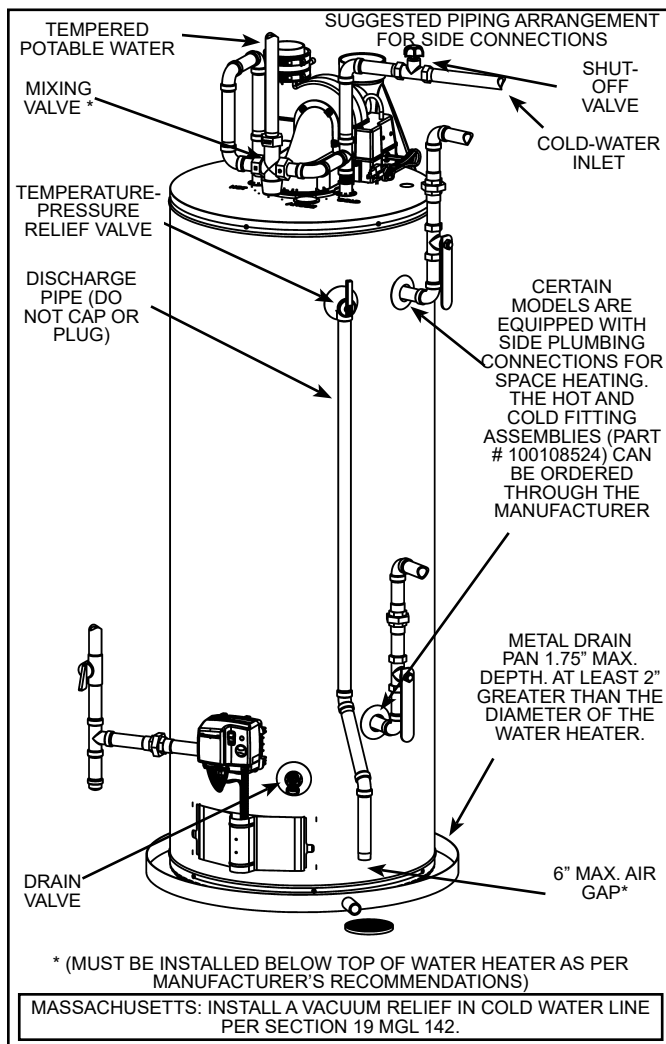
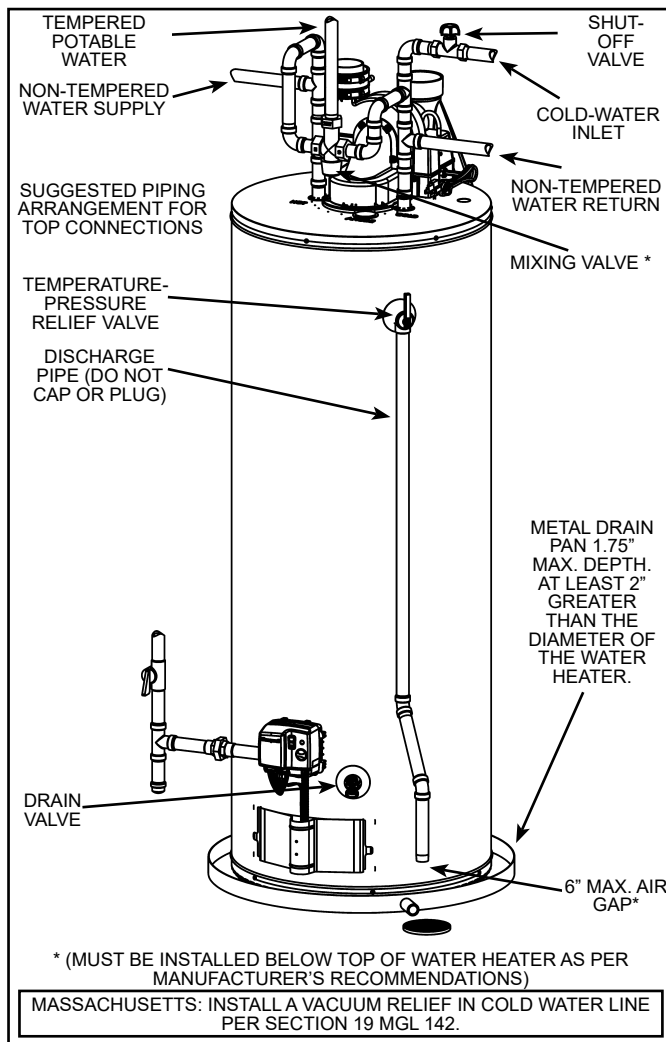

Figure 7.
Figure 8.
Models equipped with Combo Heating capabilities are shipped with the two side plumbing taps **OPEN** (item 6 and item 9 in Figure 1). See also Figure 7. If the heater is to be operated without using the side taps for combo heating, these openings **must be plugged** with the two pipe plugs supplied with the heaters.
In addition to using lowest possible temperature setting that satisfies demand of application, a mixing valve should be installed at water heater (see Figure 7 and Figure 8) or at hot-water taps to further reduce system water temperature.